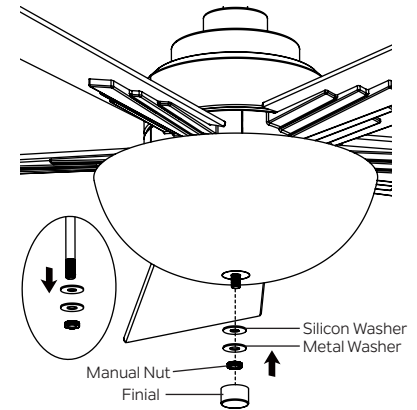

Fig. 23
Step 2. Remove and retain the manual nut, metal washer and silicone washer from the threaded rod on the light kit. (Fig. 23)
Step 3. Lift the glass shade up to the light kit, allowing the threaded rod to go through the center hole in the bottom of the glass shade. Place the silicon washer and metal washer over the threaded rod, then screw the manual nut onto the threaded rod until tight. DO NOT OVER-TIGHTEN. (Fig. 23)
Step 4. Screw the finial to the threaded rod and securely tighten. (Fig. 23)